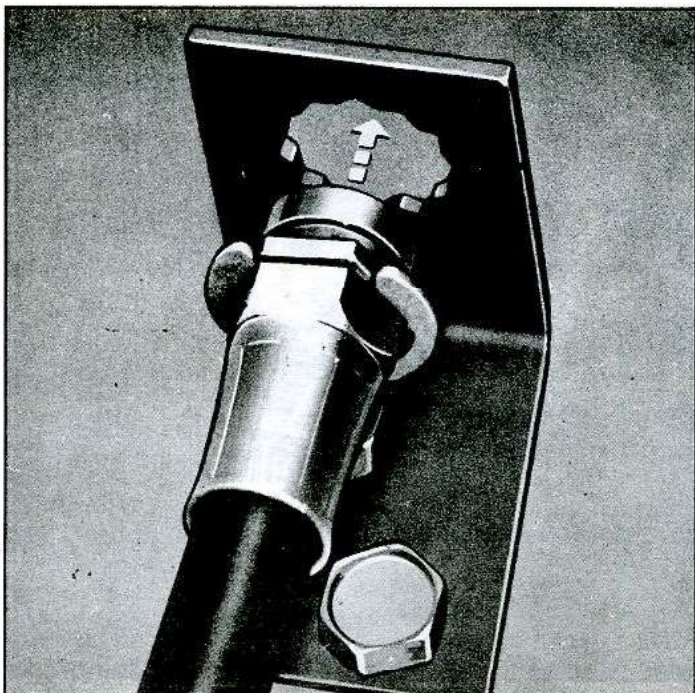

Fig. 7—Brake Line Support Bracket
3. With weight of car on wheel and suspension in normal position (front wheels straight ahead) pass female end of hose through support bracket, allowing hose to seek its own position. Insert hex of hose fitting into the 12 point hole in support bracket in position which induces least twist to hose (fig. 7).